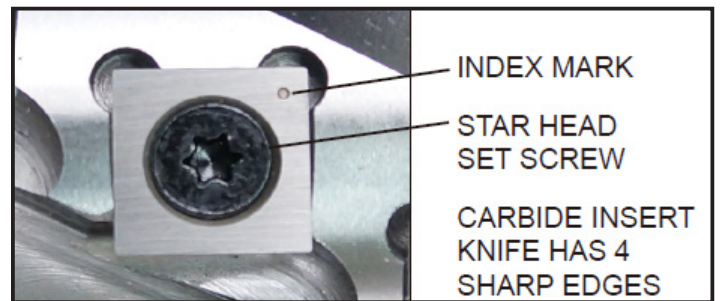

FIG.7.1.1
- Rotate the insert so that a new sharpened edge is in position. The inserts have a indication mark on their top surface corner, so that you can reference the positioning of the dulled or sharpened edges of the insert. FIG. 7.1.1-7.1.5.